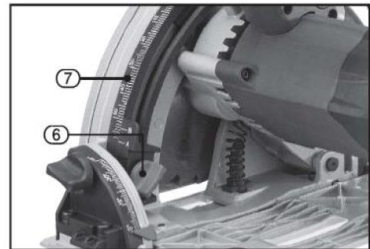

FIG.7
11.3 Cutting depth adjustment (Fig. 7)
- Unfasten the cutting depth adjustment knob (6) and set the required depth using the scale (7) and retighten the knob.
- The markers on the dimension scale show marks for depth with (A) and without (B) the guide rail.